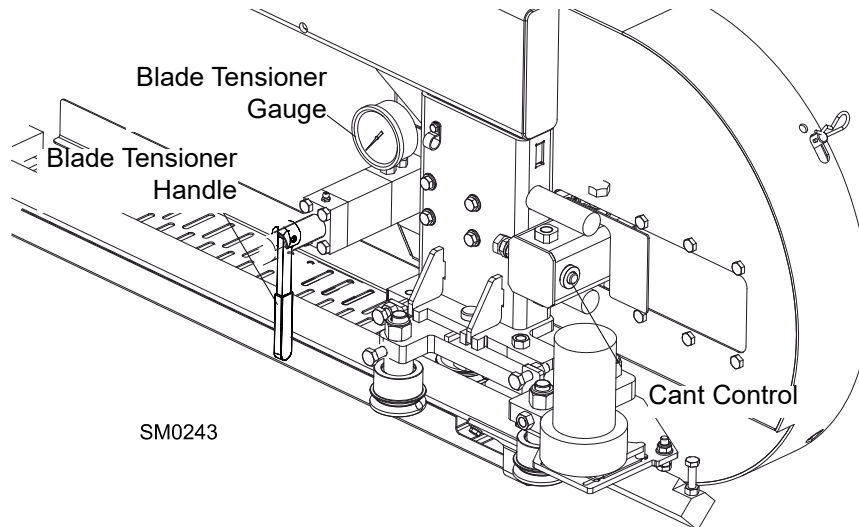

FIG. 2-14
See figure 2-14. Tension the blade by turning the hydraulic tensioning handle clockwise until the tension gauge indicates the recommended tension.
4. To adjust where the blade travels on the blade wheels, use the cant control shown in Figure 2-14.